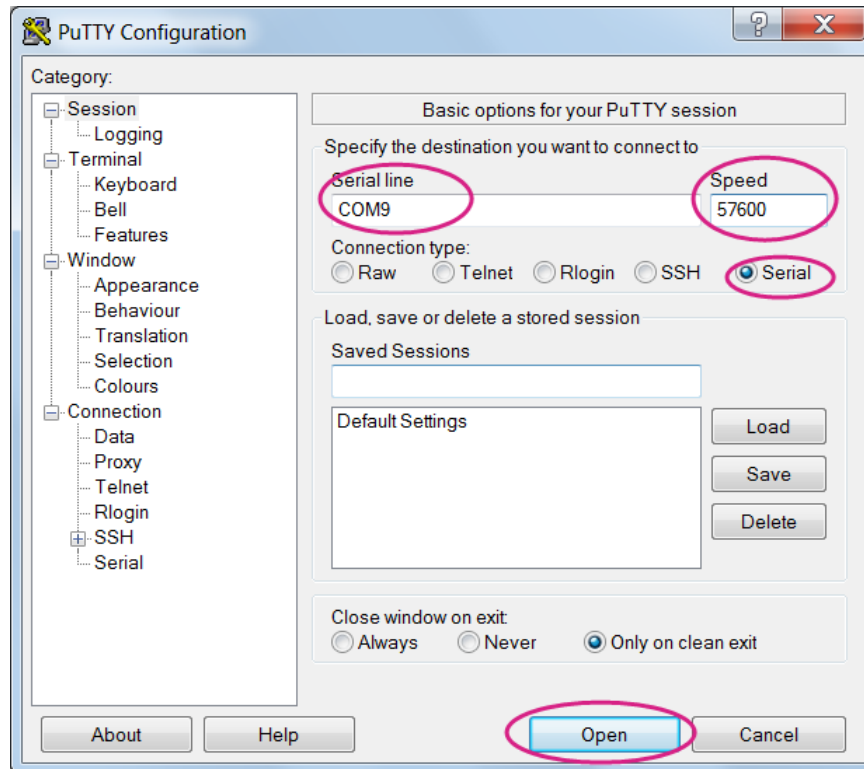

Figure 23 Using UART to USB cable to access system console in Windows terminal
- 4) Open the PuTTY terminal and enter the **COM port** number of the USB device found in the device manager, click on the **Serial** radio button, type **57600** in Speed box and click **Open**, as shown in Figure 23.